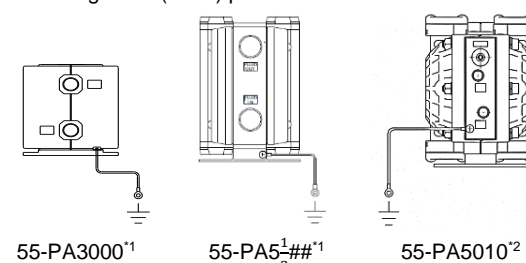

Fig.1 Method of Connecting Ground Cable
- Earth connection (Fig. 1)
Grounding the pump (Fig. 1). Ensure that the pump is electrically connected to a ground (earth) point.